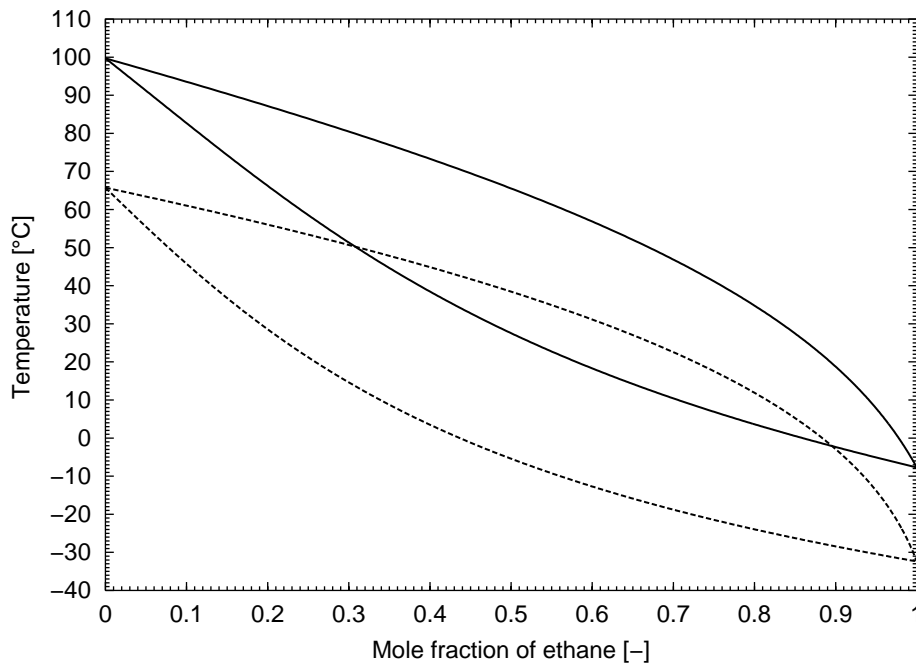

Figure 1: Binary phase diagram ($T - x - y$) for ethane and i-butane at 10 and 20 bar.
Figure 1 shows the binary phase diagram ($T-x-y$) for ethane and isobutane at two different pressures, 10 and 20 bar.
a) Answer the following from the diagram in Figure 1: